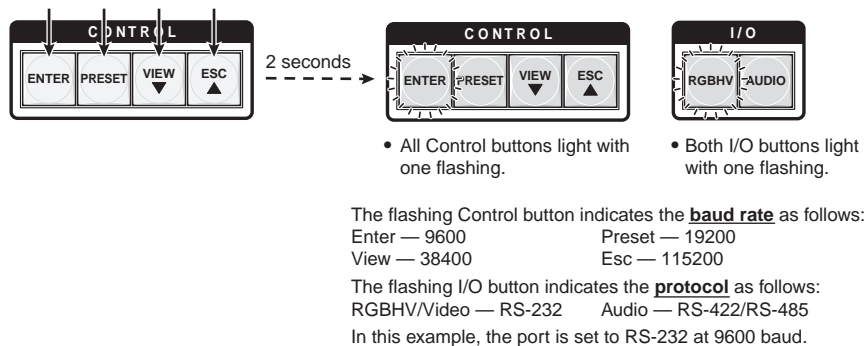

Figure 3-79 — RS-232/RS-422 and baud rate display
1. To enter *Serial Port Configuration* mode, simultaneously press and **hold all** Control buttons (Enter, Preset, View, and Esc) (figure 3-79).